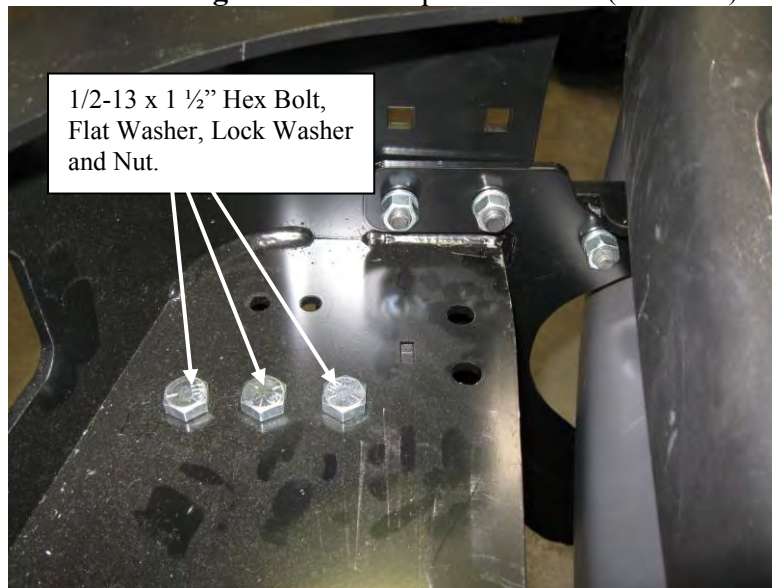

Figure 12: Large Frame Carrier: Carriage Hex Bolt Positions.
25. Tighten the six hex bolts as shown in **Figure 12** and torque to 50 lb. ft. (67.8 N-m).